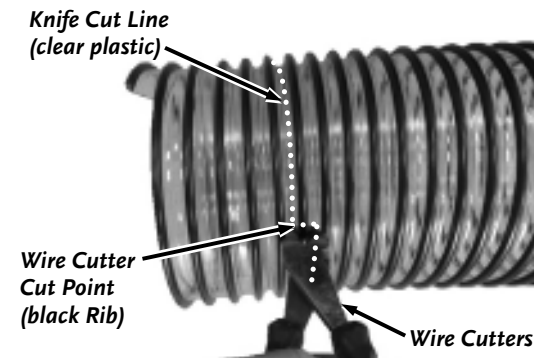

Figure 59
- c. Cut the Hose to the length required using Wire Cutters to cut the black plastic spiral and then cut the clear Hose with the razor knife (**Figure 59**).